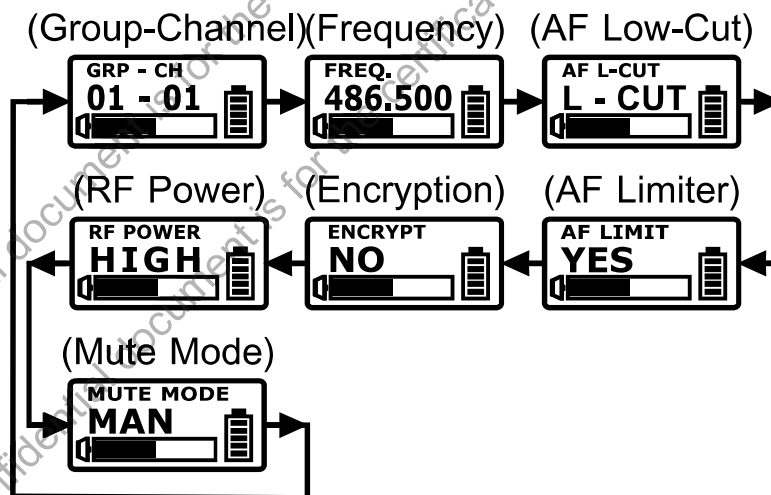

Fig. 8
- ⑮ Functions
- ⑯ Parameters
- ⑰ Battery Status
- ⑱ Audio Signal Level Bar
2. ACT-800H LCD. Fig. 8: